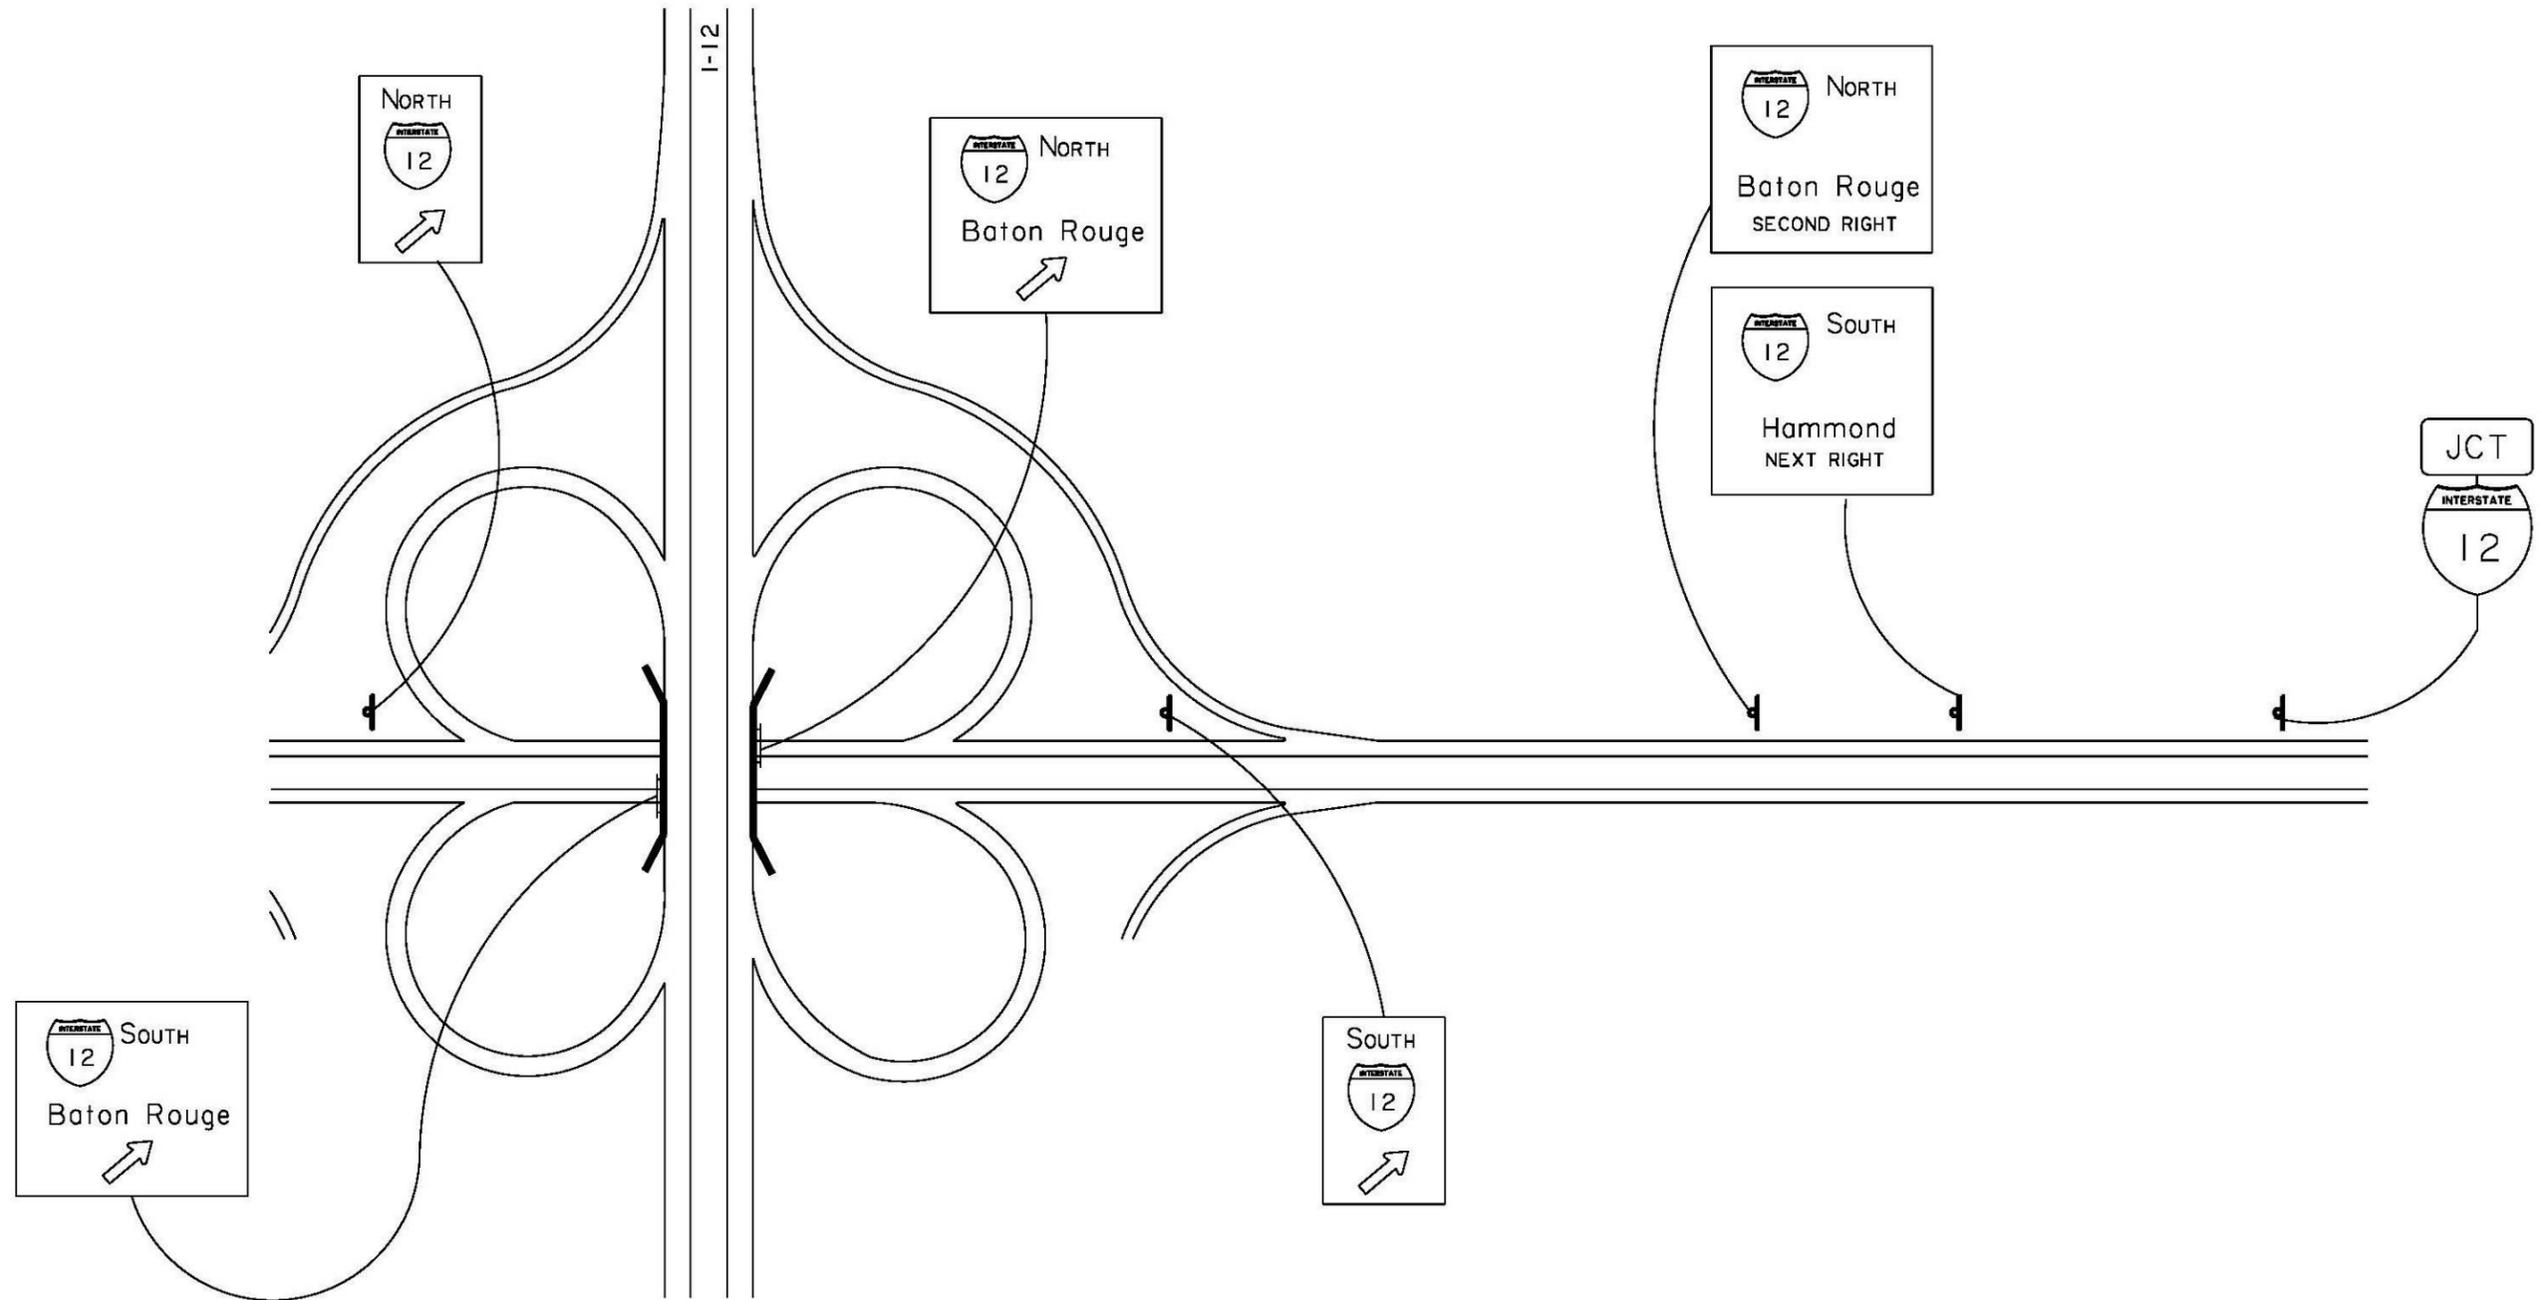

Figure 3-3: Cloverleaf Interchange with Fascia Mounted Signs
- Cloverleaf Interchange (See Figure 3-3: Cloverleaf Interchange with Fascia Mounted Signs) – the bridge fascia guide sign will indicate a right turn movement for the interstate on ramp